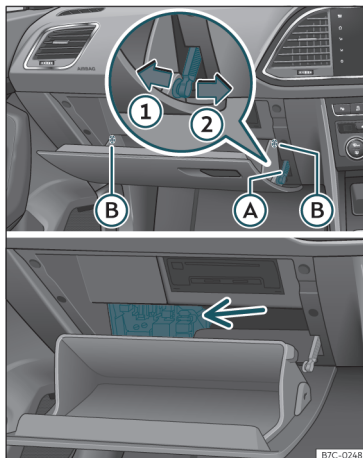

Fig. 46 Glove box (right hand drive): fuse box access.
- Undo the opening limiter»» **Fig. 46** (A) in two steps: first, unlock the limiter by pulling back on it (arrow ①) and then move it gently to the right (arrow ②). Remove the guide when the cover is in the normal opening position (30°).
- Free the side pivots (B) to release the cover to its second opening position (60°).